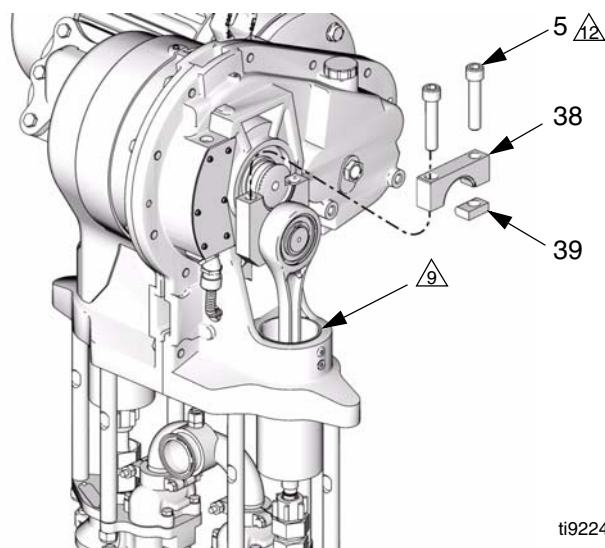

FIG. 10. Remove Crank Arm Cap
5. Place a clean rag over the top of the slider cylinder (2) to prevent debris from falling into the slider assembly during disassembly.
6. Place a 3/4 in. wrench on the slider piston (9) flats (just above the coupling nut), to keep the slider piston/connecting rod from turning when you are loosening the coupling nut (14). Orient the wrench so it is braced against one of the tie rods (3). Applying excessive force to the slider piston/connecting rod can shorten the life of the lower pin bearing.
7. Using a 1-5/8 in. open-end wrench, unscrew the coupling nut (14) from the slider piston (9) and let it slide down onto the pump piston rod. Be careful not to lose the collars (13).
8. See FIG. 10. Using a 1/2 in. hex driver, unscrew the two cap screws (5). Remove the crank arm cap (38) and key (39). If necessary, use a plastic hammer to break these parts loose.
13. Slide the piston (9) and connecting rod (7) into the cylinder (2).
14. Position the crank arm (4) to engage the output shaft (OS), and rotate it to the bottom of the output shaft.
15. Place a clean rag over the top of the slider cylinder (2) to prevent debris from falling into the slider assembly during reassembly.
16. See FIG. 10. Apply antiseize lubricant to the threads of the cap screws (5). Install the key (39), crank arm cap (38), and cap screws (5), oriented as shown. While the gap-side screw is still loose, torque the key-side screw to 210-230 ft-lb (283-310 N•m). Then torque the gap-side screw to 210-230 ft-lb (283-310 N•m).
17. Ensure that the collars (13) are in place in the coupling nut (14).
18. Place a 3/4 in. wrench on the flats of the slider piston (9), to keep it from turning when you are tightening the coupling nut (14). Orient the wrench so it is braced against one of the tie rods (3) or the pump stand. Tighten the coupling nut (14) onto the slider piston (9) and torque to 75-80 ft-lb (102-108 N•m).
19. Remove the rag. Reinstall the cover (32 or 21) and screws (12).